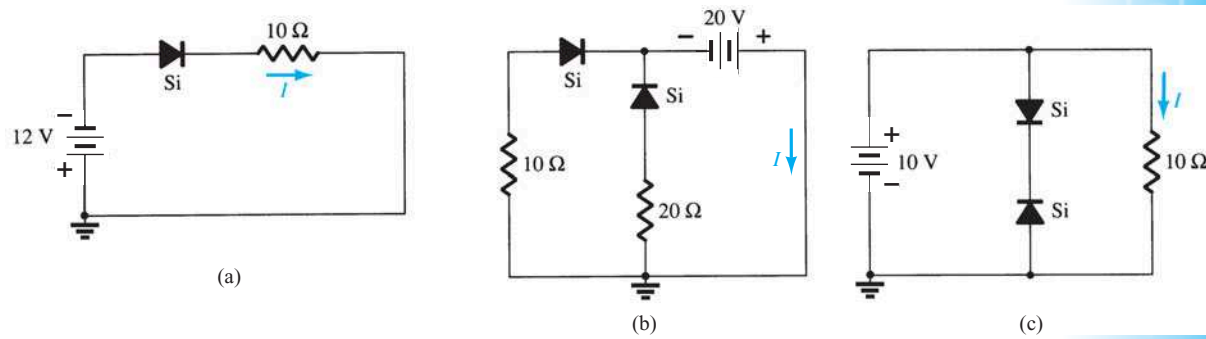

FIG. 2.155
5. Determine the current I for each of the configurations of Fig. 2.155 using the approximate equivalent model for the diode.